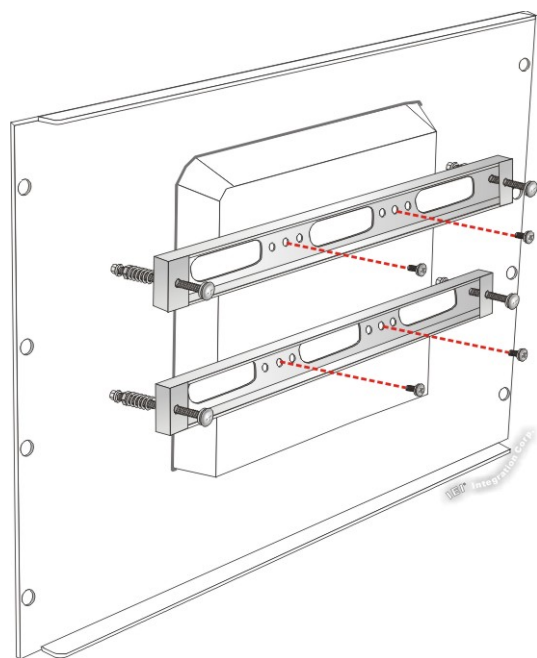

Figure 3-26: Securing Rack Mounting Brackets
- Step 5:** Secure the two rack mounting brackets to the rear of the panel PC by inserting the four retention screws into the VESA mounting holes and tightening them (Figure 3-26).